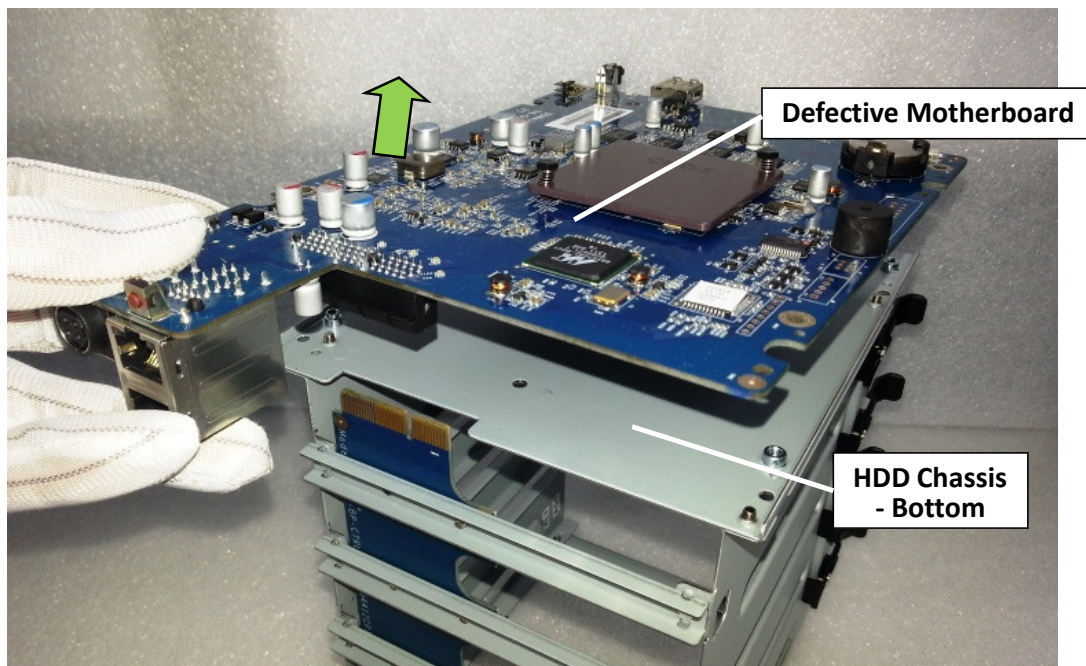

Fig. 23
2.1.14 Then remove the defective motherboard assembly. (Fig. 23)